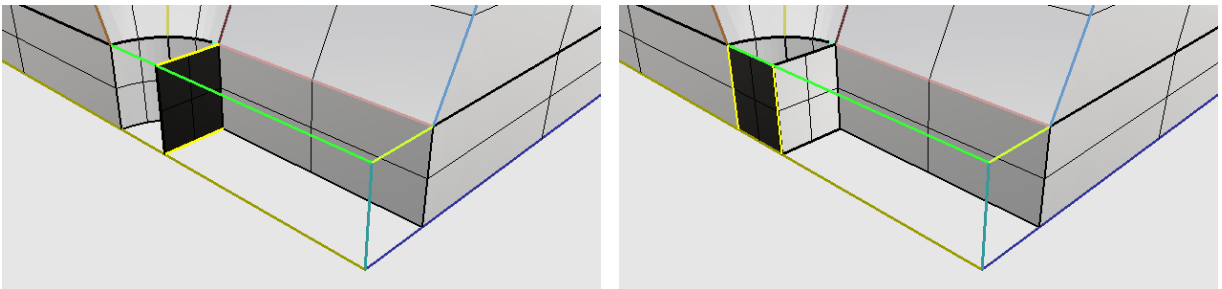

Figure 79: Building 2 additional surfaces
4. Use **Loft** to build the vertical surface between the two highlighted horizontal construction lines shown in Figure 79, left. Use **Loft** to build an additional vertical surface shown in Figure 79, right.